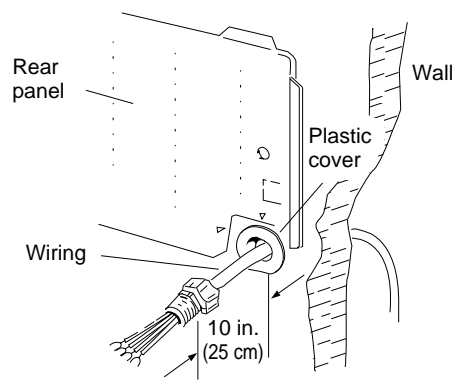

Fig. 24
- Insert the inter-unit wiring (according to local codes) into the through-the-wall PVC pipe. Run the wiring toward the indoor side allowing approx. 10 in. (25 cm) to extend from the wall face. (Fig. 24)